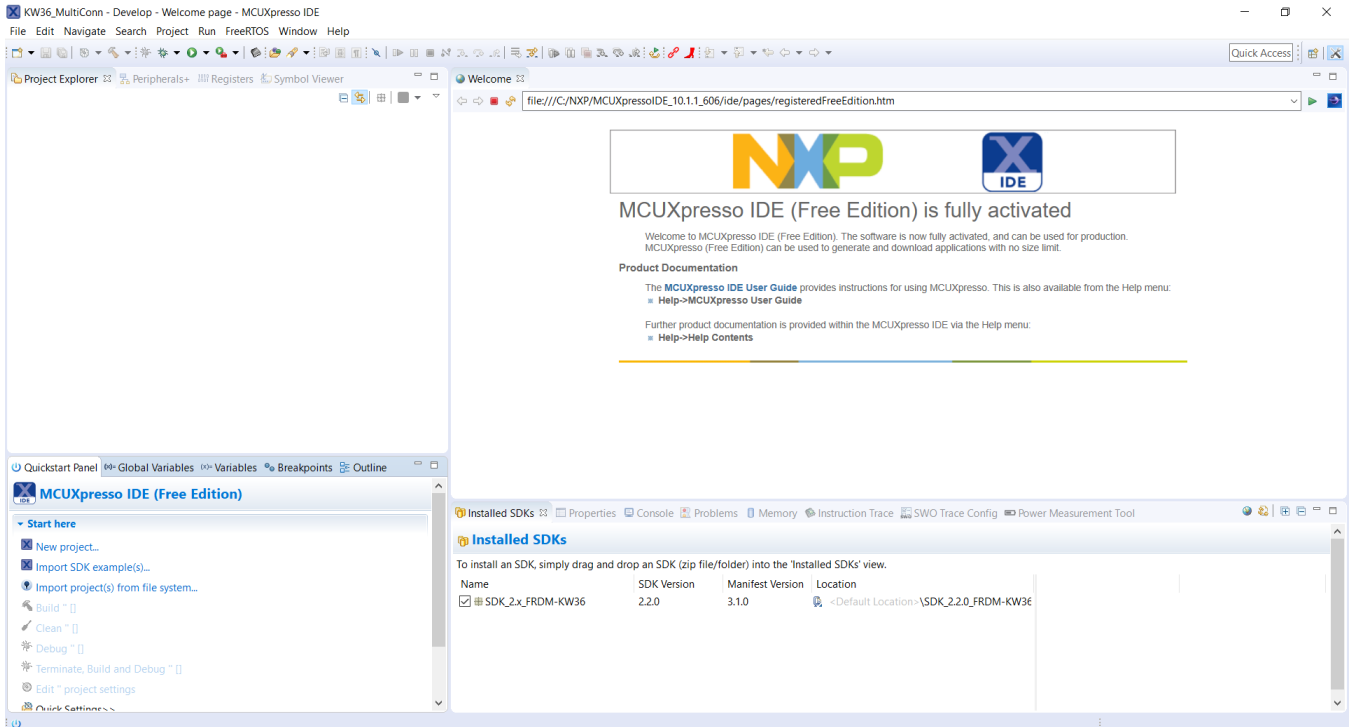

Figure 3. MCUXpresso IDE main screen
5. When installed, the MCUXpresso IDE looks as Figure 3.